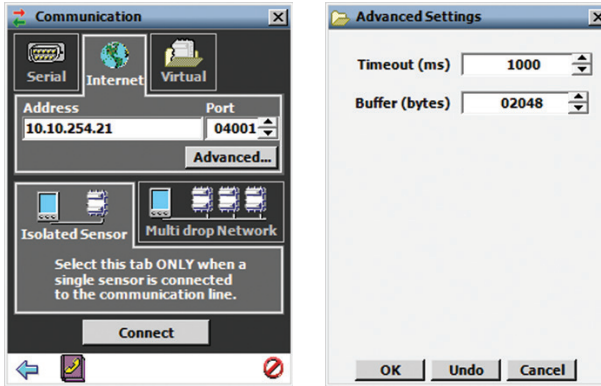

Figure 4.3 – Internet Connection (left) and Advanced Settings (right)
- 2 Select the **Internet** tab (see Figure 4.3).